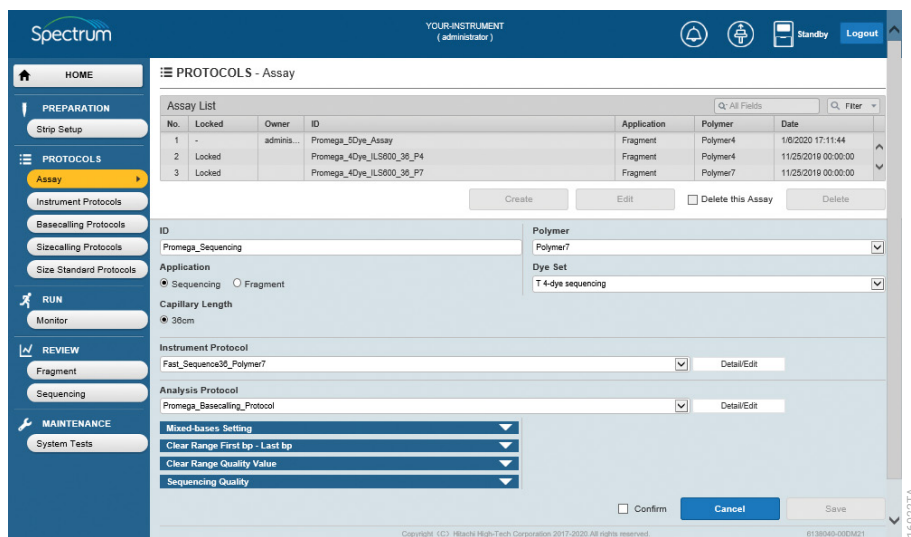
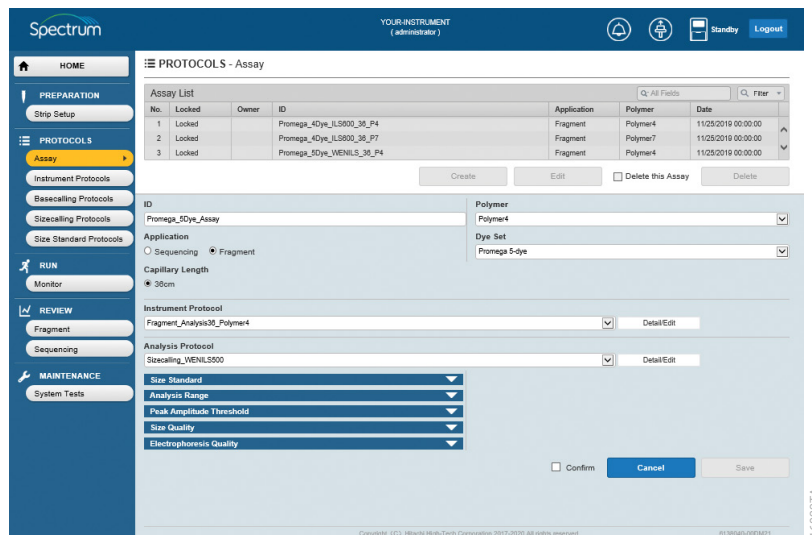

Figure 74. 'Assay' screen with editable basecalling protocol fields.
Figure 75. 'Assay' screen with editable sizecalling protocol fields.
8. **Detail/Edit** becomes active after selecting the desired Analysis Protocol. After selecting **Detail/Edit**, the parameters specific for basecalling (Figure 74) or sizecalling protocols (Figure 75) may be edited as described in Sections 5.2 and 5.3, respectively.